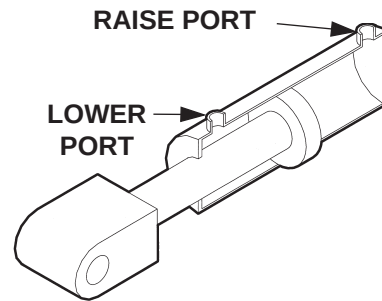

FIG. 42-1
4. Check the Hydraulic Cylinder. With the Platform on the ground, remove Line from the Lower Port of the Cylinder (**FIG. 42-1**). Allow pump motor to run two seconds more while you watch for hydraulic fluid at the Lower Port. A few drops of hydraulic fluid escaping the port is normal; however, if it streams out, Piston Seals are worn. Replace Seals.